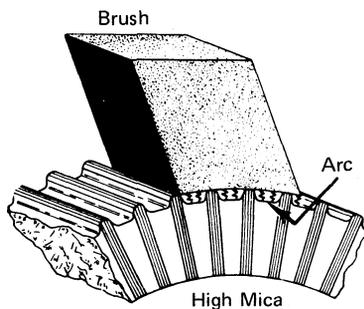
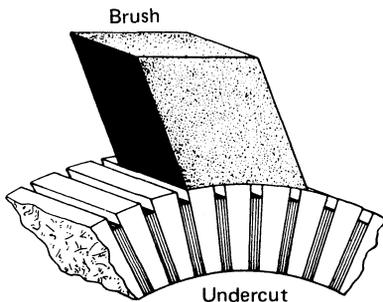

Figure 1-25. Commutator Improperly Undercut
Figure 1-26. Commutator Properly Undercut
8. If the mica insulation between the commutator segments projects above the segments, it causes the brushes to spark (Figure 1-25). The mica should be undercut to eliminate this condition (Figure 1-26). The saw edge of the chute blade cleaner makes a satisfactory tool for cleaning between the commutator segments and for undercutting the mica. The commutator should be checked at least once every six months. Removing the brushes before the armature is removed from any motor or generator is advisable.